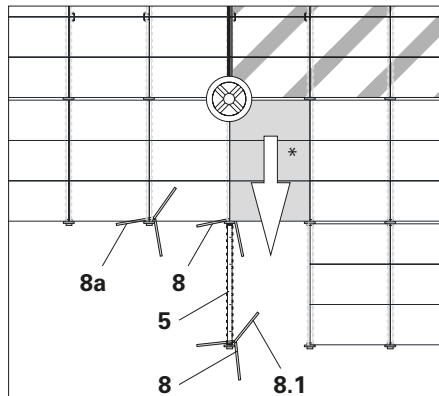
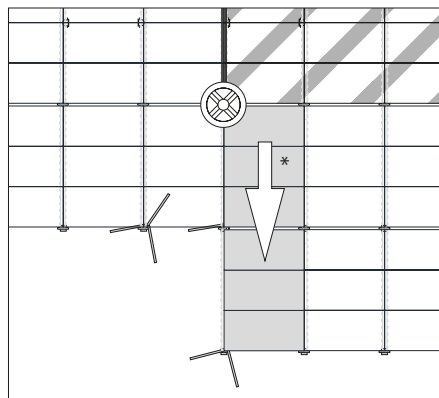

Fig. C2.01
Fig. C2.02
Secure the props of each free-standing Main Beam SLT 225 (5) with universal tripods Ø57-120 mm (8). Always position the universal tripods Ø57-120 mm in such a way that the fixed leg (8.1) is beneath the completed formwork. Also secure the prop in the neighbouring bay with universal tripod Ø57-120 mm (8a). (Fig. C2.01)
Site personnel, wearing the appropriate safety equipment, may only move on the SKYDECK Panels marked in grey. The SKYANKER must be positioned in the hatched area. (Fig. C2.01 + Fig. C2.02)